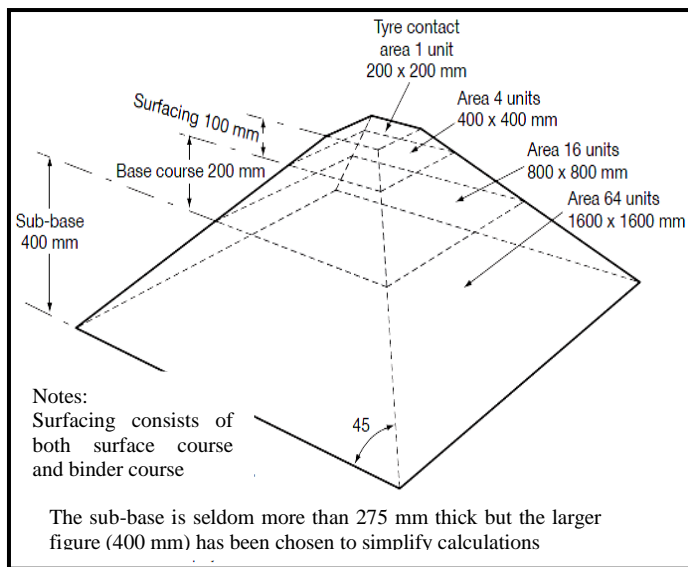

Figure 16-3: Distribution of Load Through Road Structure.
- b. Consider a road structure comprising base course, sub-base and formation. If the tyre contact area is 200 mm x 200 mm, and with a pyramid spread of about 45° to the vertical (see Figure 16.3):